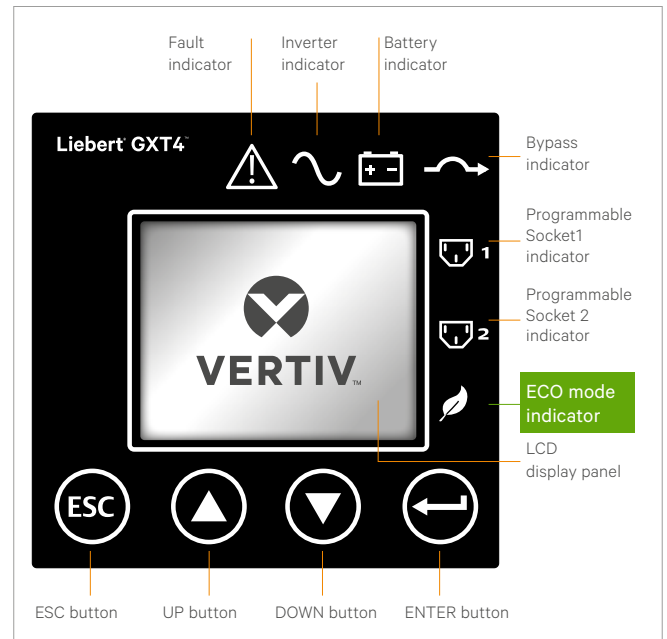

Figure 5: LED indicators on front panel display socket status.
- The status of each group should be reported on the front panel. Liebert GXT4 UPS includes 2 separate LED indicators to specifically illustrate the status of each group of programmable sockets (Fig. 5) to the user